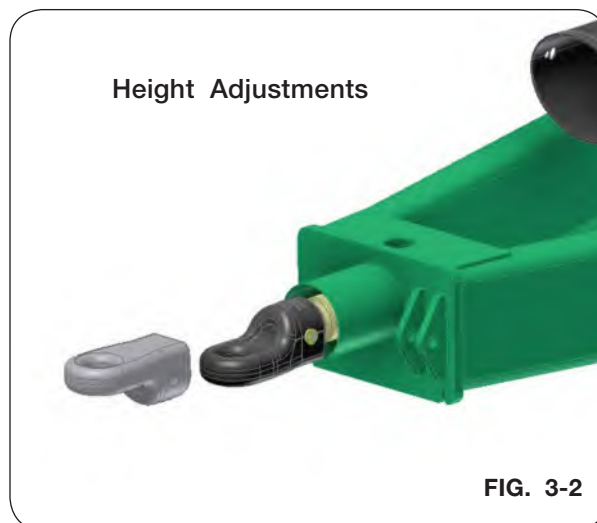

FIG. 3-2
- Place wear shoe (281898-CAT 4; 281899-CAT 5) between tractor hitch and grain cart hitch. (Figure 3-2)
NOTE: Hitch tang can be flipped providing a drawbar connection height difference of 2 7/8" (Figure 3-2 & 3-3). Position the hitch tang to help assure a level cart when loaded, or the rear of the hopper slightly higher than the front, to maintain rear slope cleanout. Whenever the hitch tang is flipped, the driveline clearances need to be reviewed.